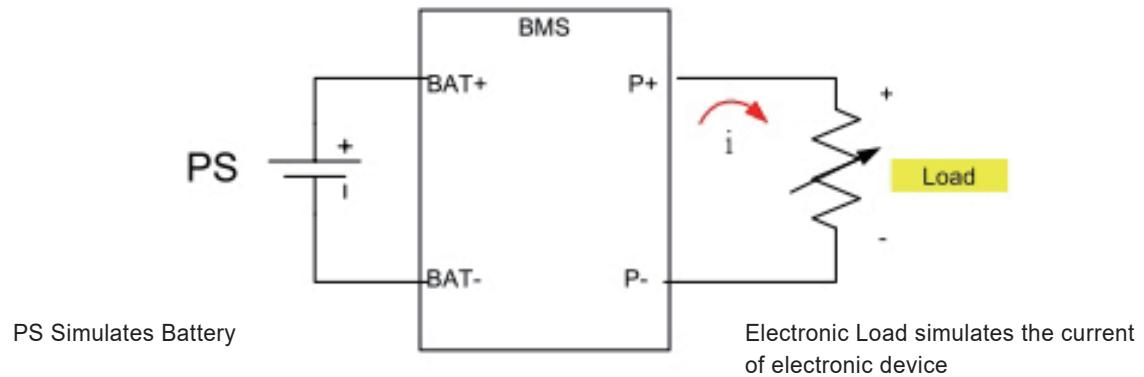
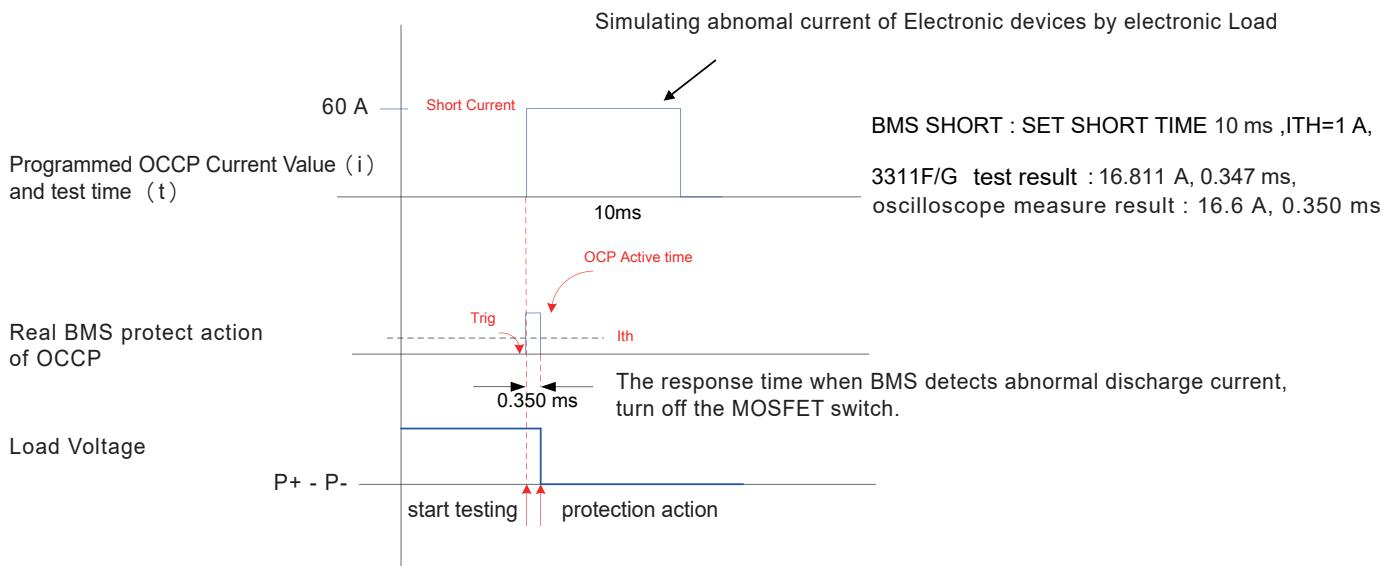

Figure 2 Equivalent Block Diagram for BMS discharge operation
Figure 3 The procedure of 3311F/G with BMS for SHORT current test procedure
## 2. The test method of SHORT protection (SHORT): Power Supply (PS) & LOAD connections shown in Figure 2, LOAD test procedure shown in Figure 3.